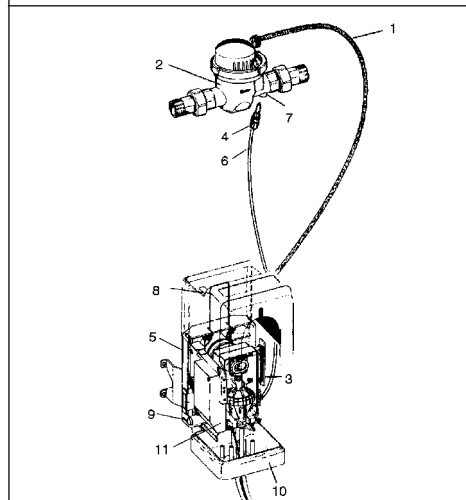

Fig. 3: Connection of the impulse transmitter
Spare cable can be pulled into the housing and be rolled up onto the cable store (3). To do this, open the cover (8) with the two buttons (9) on either side (see Fig. 3).
- Remove the cover from the pump body (Fig. 3).